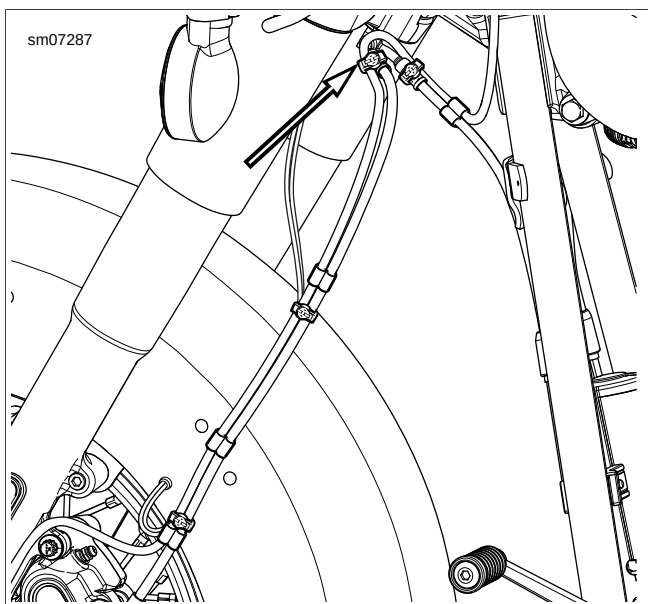

Figure 1-41. Front ABS Brake Line
- See Figure 1-41. **ABS models:** disconnect brake line from steering head.